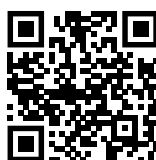

Fig. 95
- ▶ Aprire la Liebherr SmartMonitoring Dashboard. (vedere Fig. 95)